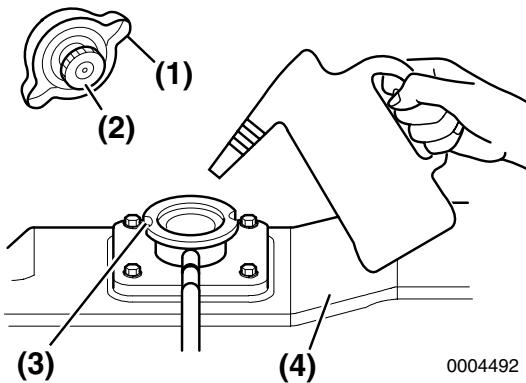

Figure 18
3. NOTICE: NEVER pour cold coolant into a hot engine. Pour coolant slowly into the coolant tank (**Figure 18, (4)**) to avoid air bubbles. Fill until coolant overflows from the filler port.
4. Align filler cap tabs (**Figure 18, (2)**) with filler port notches (**Figure 18, (3)**) and tighten filler cap (**Figure 18, (1)**) firmly.